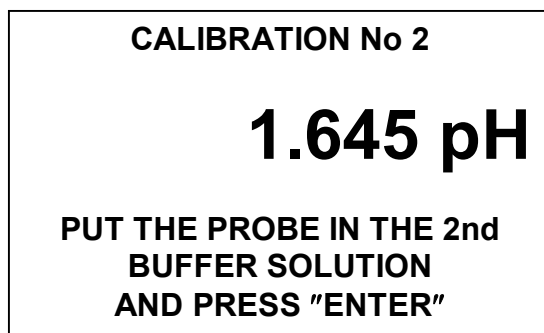

Fig. 2.5
- 6 Press the  key. The display shown in Fig. 2.5 shall come up. The pH-meter shall enter the calibration mode against the second buffer solution exhibiting pH = 9.18 at the solution temperature of (25.0±0.2) °C.